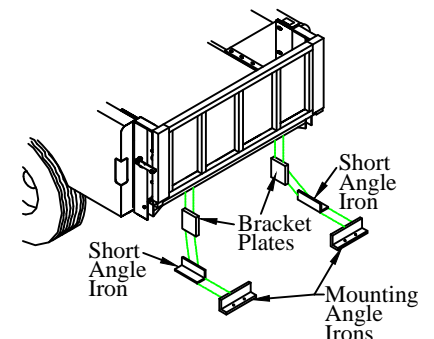

Figure 18: Lower bracket support.
- Bolt** the bracket plates to the truck frame (Figure 18).